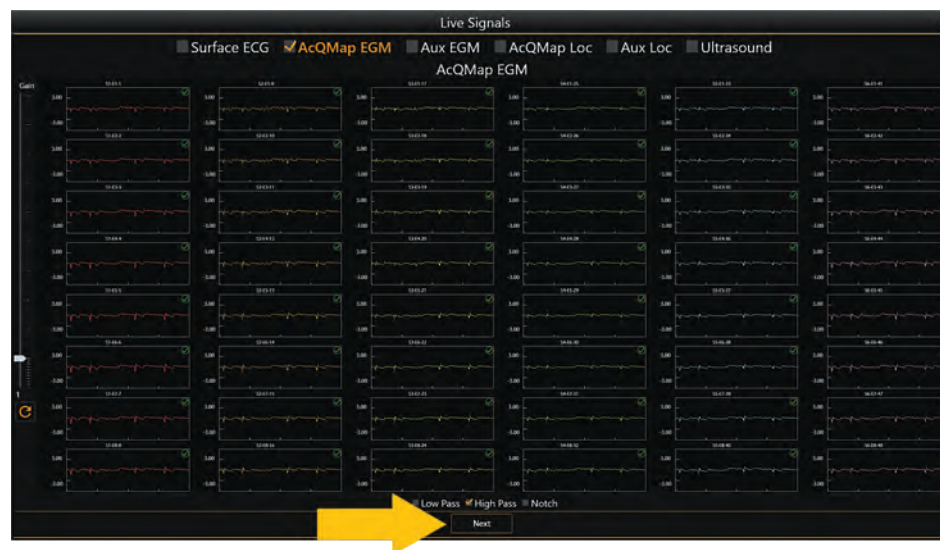

Figure 8-2. Clicking the **[Next]** button at the bottom of the screen (indicated by the arrow) will take you to the Patient Records and Acquisition Windows.
2. Click **[Next]** at the bottom of the screen after startup process is complete. (Figure 8-2)